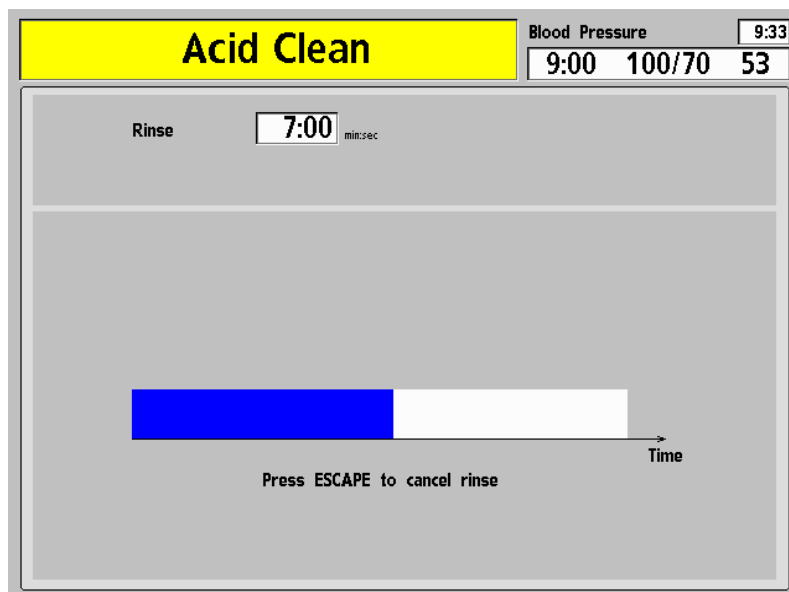

Figure 53 – The Acid Clean Screen
6. Press **CONFIRM** to start the Acid Clean program. The "Acid Clean" screen appears in the display (see Figure 53 – The Acid Clean Screen). The progress of the acid cleaning is indicated by the horizontal bar.